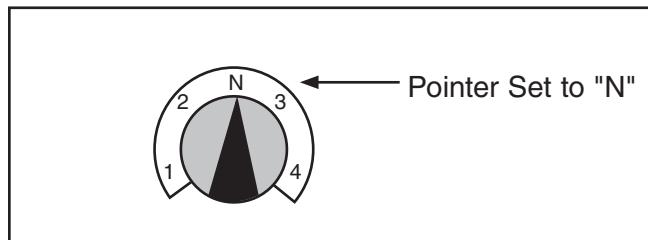

Figure 127. Gearbox dial set to "N".
2. Unlock half-nut lever and turn top right gearbox dial to "N" (see **Figure 127**) so leadscrew can be rotated by hand.